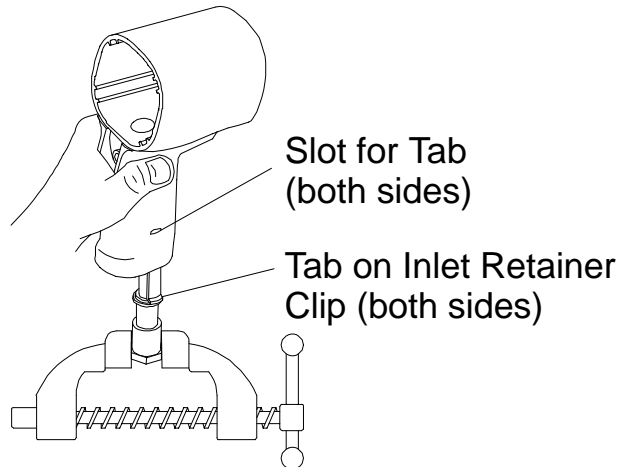

Figure 7
Inlet Retainer Clip (25) and pull upward on the Housing (20). This will allow the Inlet Bushing to come free from the Handle of the Housing. See Figure 7.
- Pull the Trigger (33) from the front of the Housing and remove the Trigger O-ring (34).